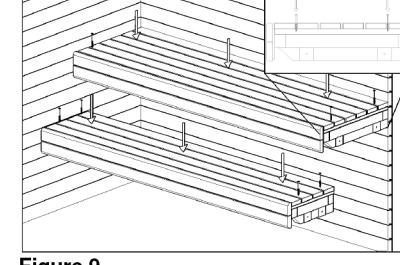

Figure 9
- Mount the lower and upper bench grid onto the frame and fasten the grids from the upper side to the bench frame using four 5x80 mm screws. This is to prevent the grids from bending. (Figure 9)